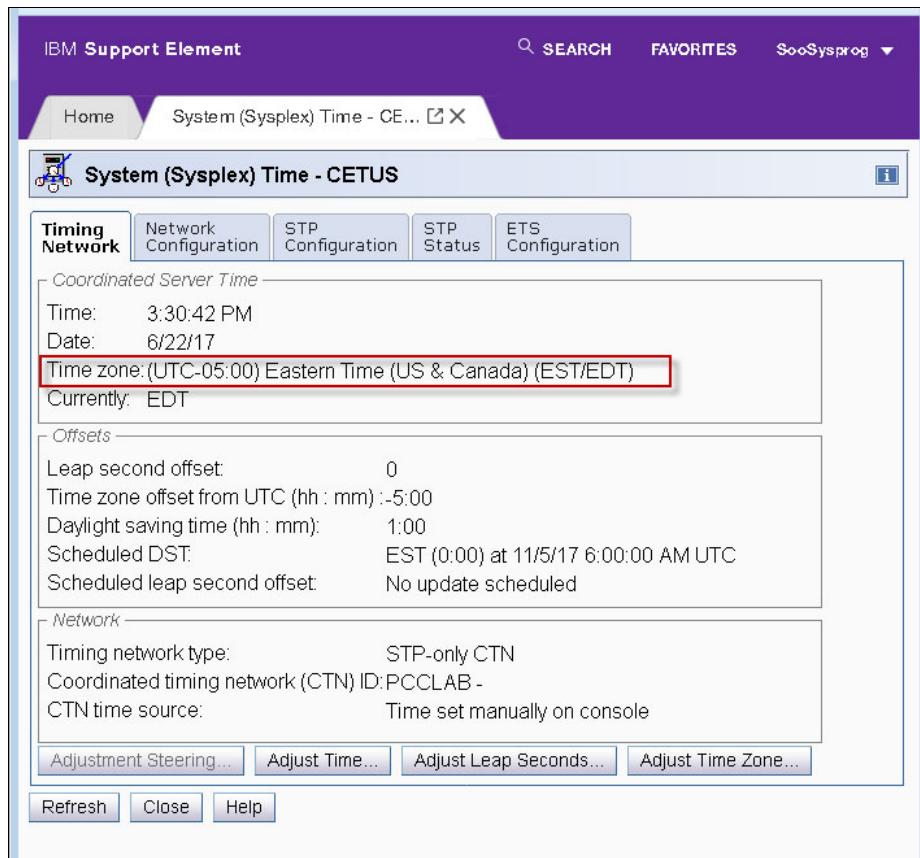

Figure 5-44 System (Sysplex) Time: Timing Network
17. Click the Timing Network tab to check or set the Time for this CPC. Adjustments can also be made here if the CPC lost its ETS and drifted too far from the time zones time (Figure 5-44).